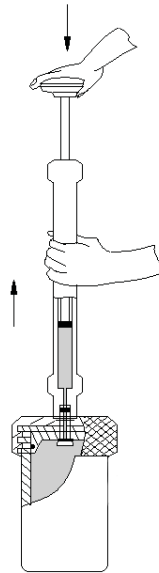

Figure 4-4 Removing the plunger
4. While maintaining the same force on the plunger, decrease the force on the cylinder by lessening your grip. This process allows the check valve to move upward slightly (Figure 4-4).